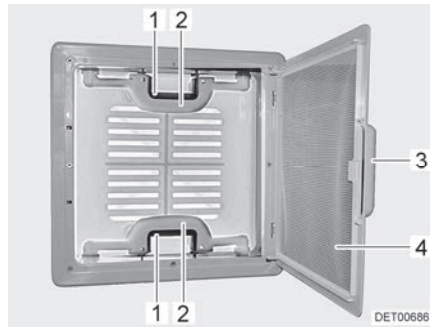

Fig. 40 Skylight with snap latch
- Pull on the handle (Fig. 40,3).
- Fold insect screen (Fig. 40,4) downward.
- Push the snap latch (Fig. 40,1) towards the inside of the skylight. At the same time use the handle (Fig. 40,2) to press the skylight upwards.
- Swing insect screen (Fig. 40,4) upwards until it latches in place.
- Using both handles (Fig. 40,2), pull down the skylight with force until the two snap latches (Fig. 40,1) lock into place.